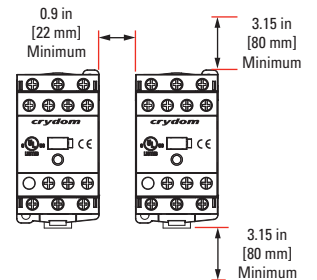

fig. 3 Multiple units mounting for maximum ratings
To achieve maximum ratings, there must be a minimum spacing of 0.8 in (22 mm) between the devices in free air and a minimum free spacing of 3.15 in (80 mm) at the top and at the bottom. (See **fig. 3**)
- (A) See compatible accessories in corresponding datasheet.
- (B) For optimal thermal performance, contactor vents should be aligned vertically to maximize natural convection airflow.
- (C) To achieve maximum ratings, there must be a minimum spacing of 0.8 in (22 mm) between the devices in free air and a minimum free spacing of 3.15 in (80 mm) at the top and at the bottom. (see **fig. 3**)
- (D) Normally Open (13 - 14) for DRC3xxx411, DRC3xxx420, DRC3xxx433 and DRC3xxx440 models.
- (E) Normally Open (23-24) for DRC3xxx420 and DRC3xxx440 models, Normally Closed (21-22) for DRC3xxx411 and DRC3xxx433 models.
- (F) Not available for DRC3xxx400 models.